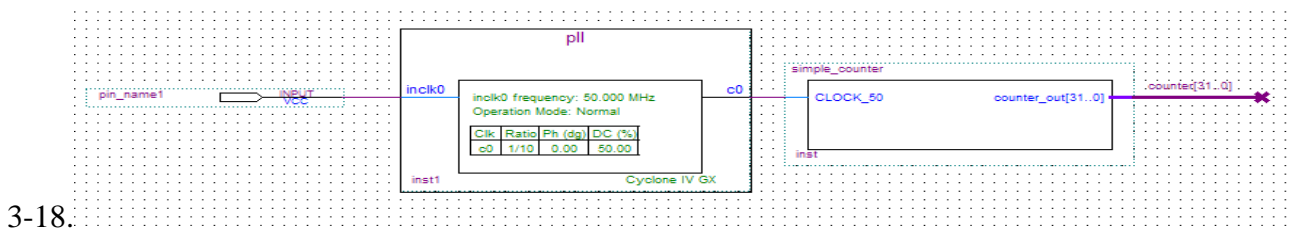

Figure 3-18 Connecting the PLL symbol and Input port
- e. Use the mouse to click and drag the new input pin to the left; notice that the ports remain connected as shown in **Figure 3-18**